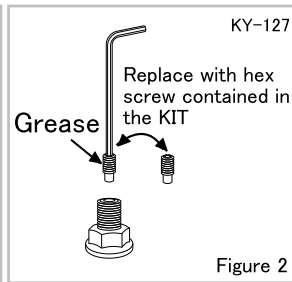

Figure 2
- 2) Remove hex bolt from the piston shaft using the provided black hex wrench for replacement procedure. (Figure 2)
- 3) Apply the grease to the threads on the hex screw contained in the KIT. (Figure 2)